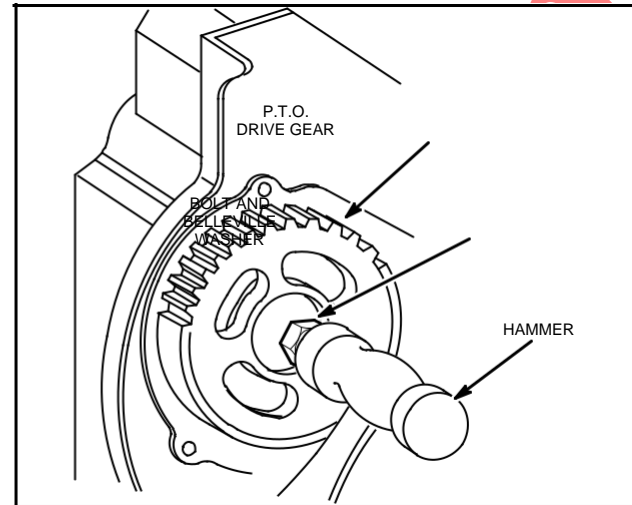
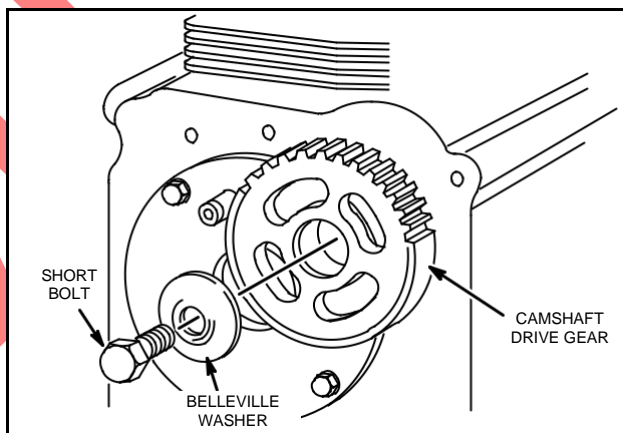

Fig. 871 - REMOVE LONG BOLT
Fig. 870 - REMOVE SHORT BOLT
1. Remove short bolt and Belleville washer from PTO drive gear, Fig. 870.
2. Loosen long bolt and Belleville washer two (2) turns on magneto side and tap head of bolt with hammer to loosen cam gear shaft.
3. Turn bolt out while pushing out cam gear shaft, Fig. 871.
1. Loosen long bolt two (2) turns.
4. Remove bolts and camshaft bearing, Fig. 871.